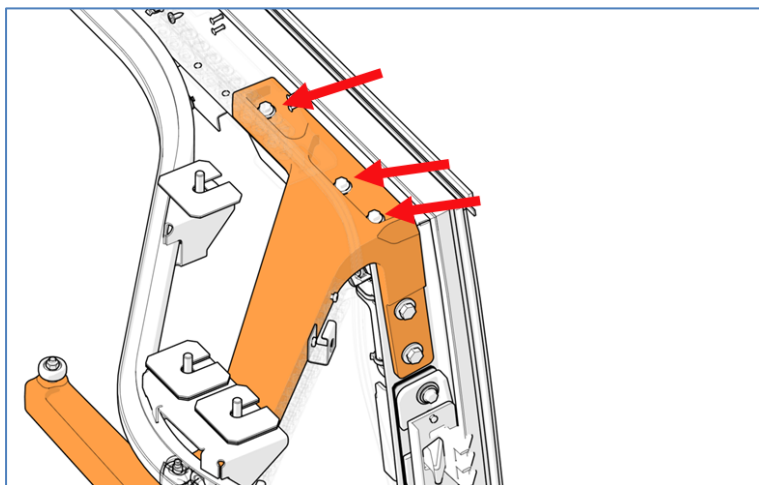

Figure 12
4. On the door upper arm top, loosen the bolts (Figure 12).